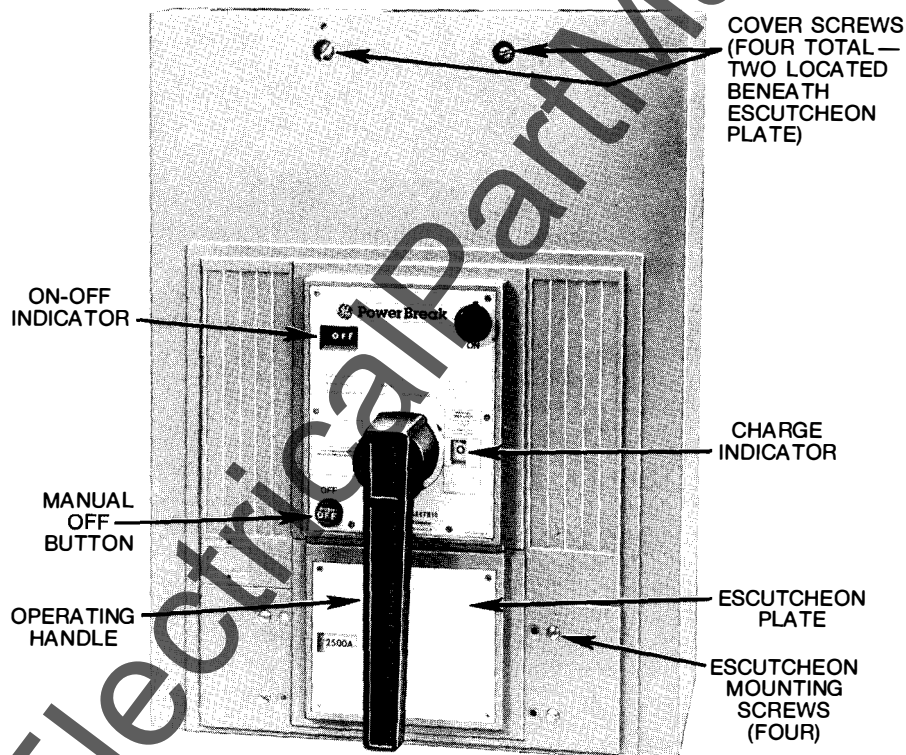

Figure 22. Manually Operated 3000A With MagneTrip™ Trip Unit
- b. Remove the escutcheon plate from the breaker cover (4 screws). See Figure 22.
- e. Install the escutcheon plate (4 screws). See Figure 22.